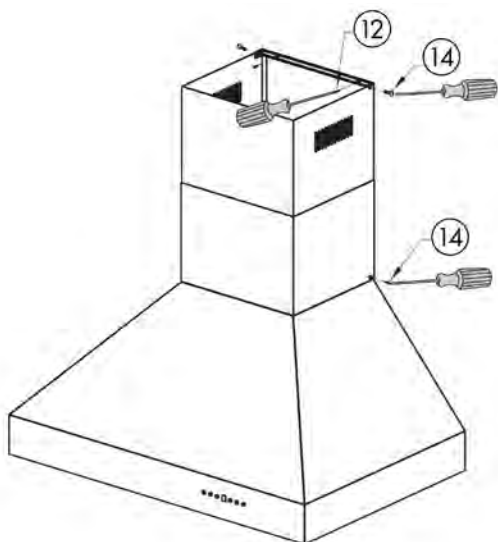

Figure 7
8. Place the two-part telescoping chimney on top the hood. Slide the inside section up until the vertical vent slots are visible, then attach the top portion to the mounting bracket with 2 screws (Item No. 14). Secure the lower portion to the hood with 2 screws (Item No. 14). **NOTE:** Screw (Item No. 12) noted below was installed earlier in step 4. *Figure 7*